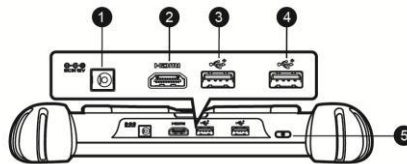

Figure 2-4 MaxiSys Tablet Top View
2. Mini USB (universal serial bus) OTG Port (It cannot be used at the same time with the No.4 Port in Figure 2-4 MaxiSys Tablet Top View)